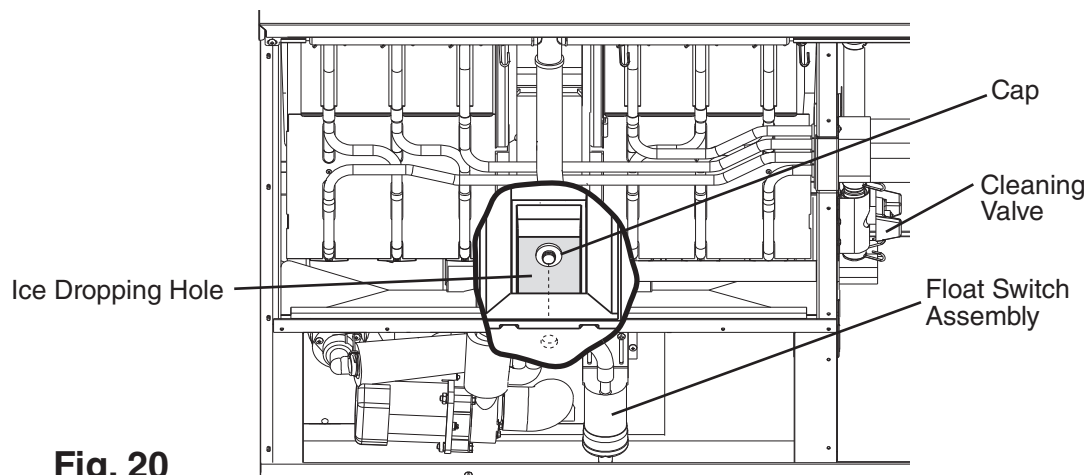

Fig. 20
- 7) Remove the insulation panel. Remove the cap located on the front bottom part of the ice dropping hole. See Fig. 20. Allow the water tank to drain.
- 5) Remove the cap located on the front bottom part of the ice dropping hole. Drain the water tank. See Fig. 20.